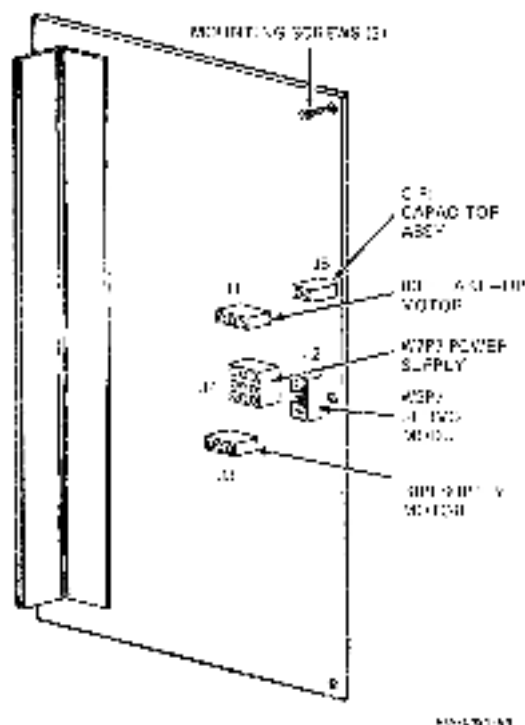

Figure 4-31 Power Amplifier Module
3. Remove the following connectors from the power amplifier module (Figure 4-31):
3. Install the connectors as follows (Figure 4-31):
3. Detach capacitor connector C1P1 from J5 of the power amplifier module (Figure 4-31).